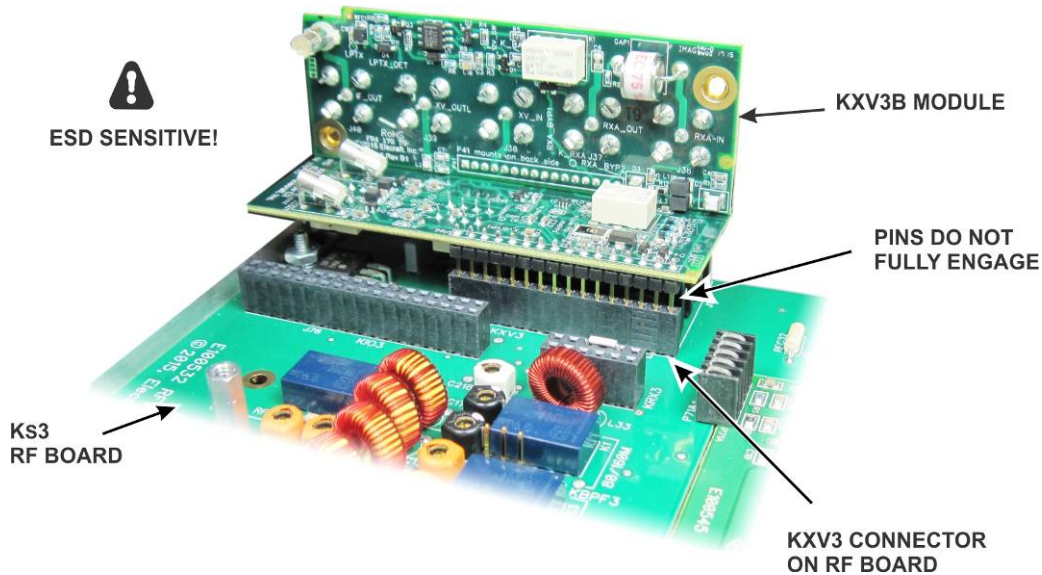

Figure 41. Plugging the KXV3B Module into the RF Board.
- Plug the KXV3B module into the KXV3B connector as shown in Figure 41 with the BNC connectors on the module facing toward the rear of the RF board. Note that the pins do not fully engage. That is normal.